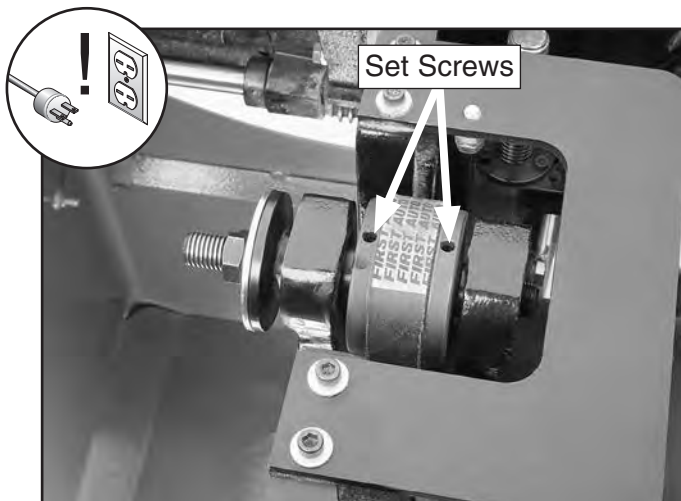

Figure 132. Location of arbor set screws.
12. Loosen the set screws shown in **Figure 132**.
30. Tighten the pulley set screws shown in **Figure 132** on **Page 73**.